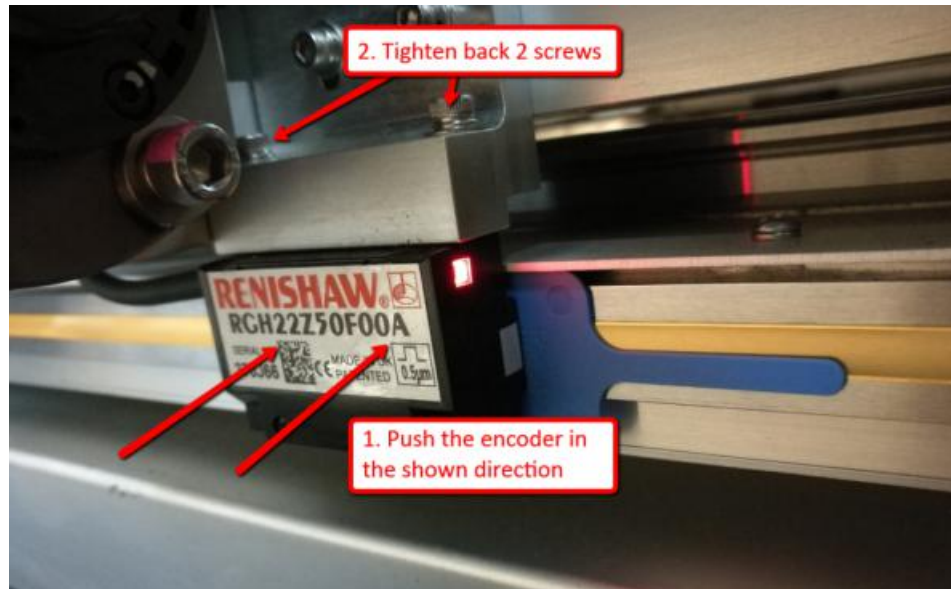

Figure 38
4. Push encoder toward spacer and tighten back 2 screws as shown in Figure 38. Remove spacer after tighten the screws.